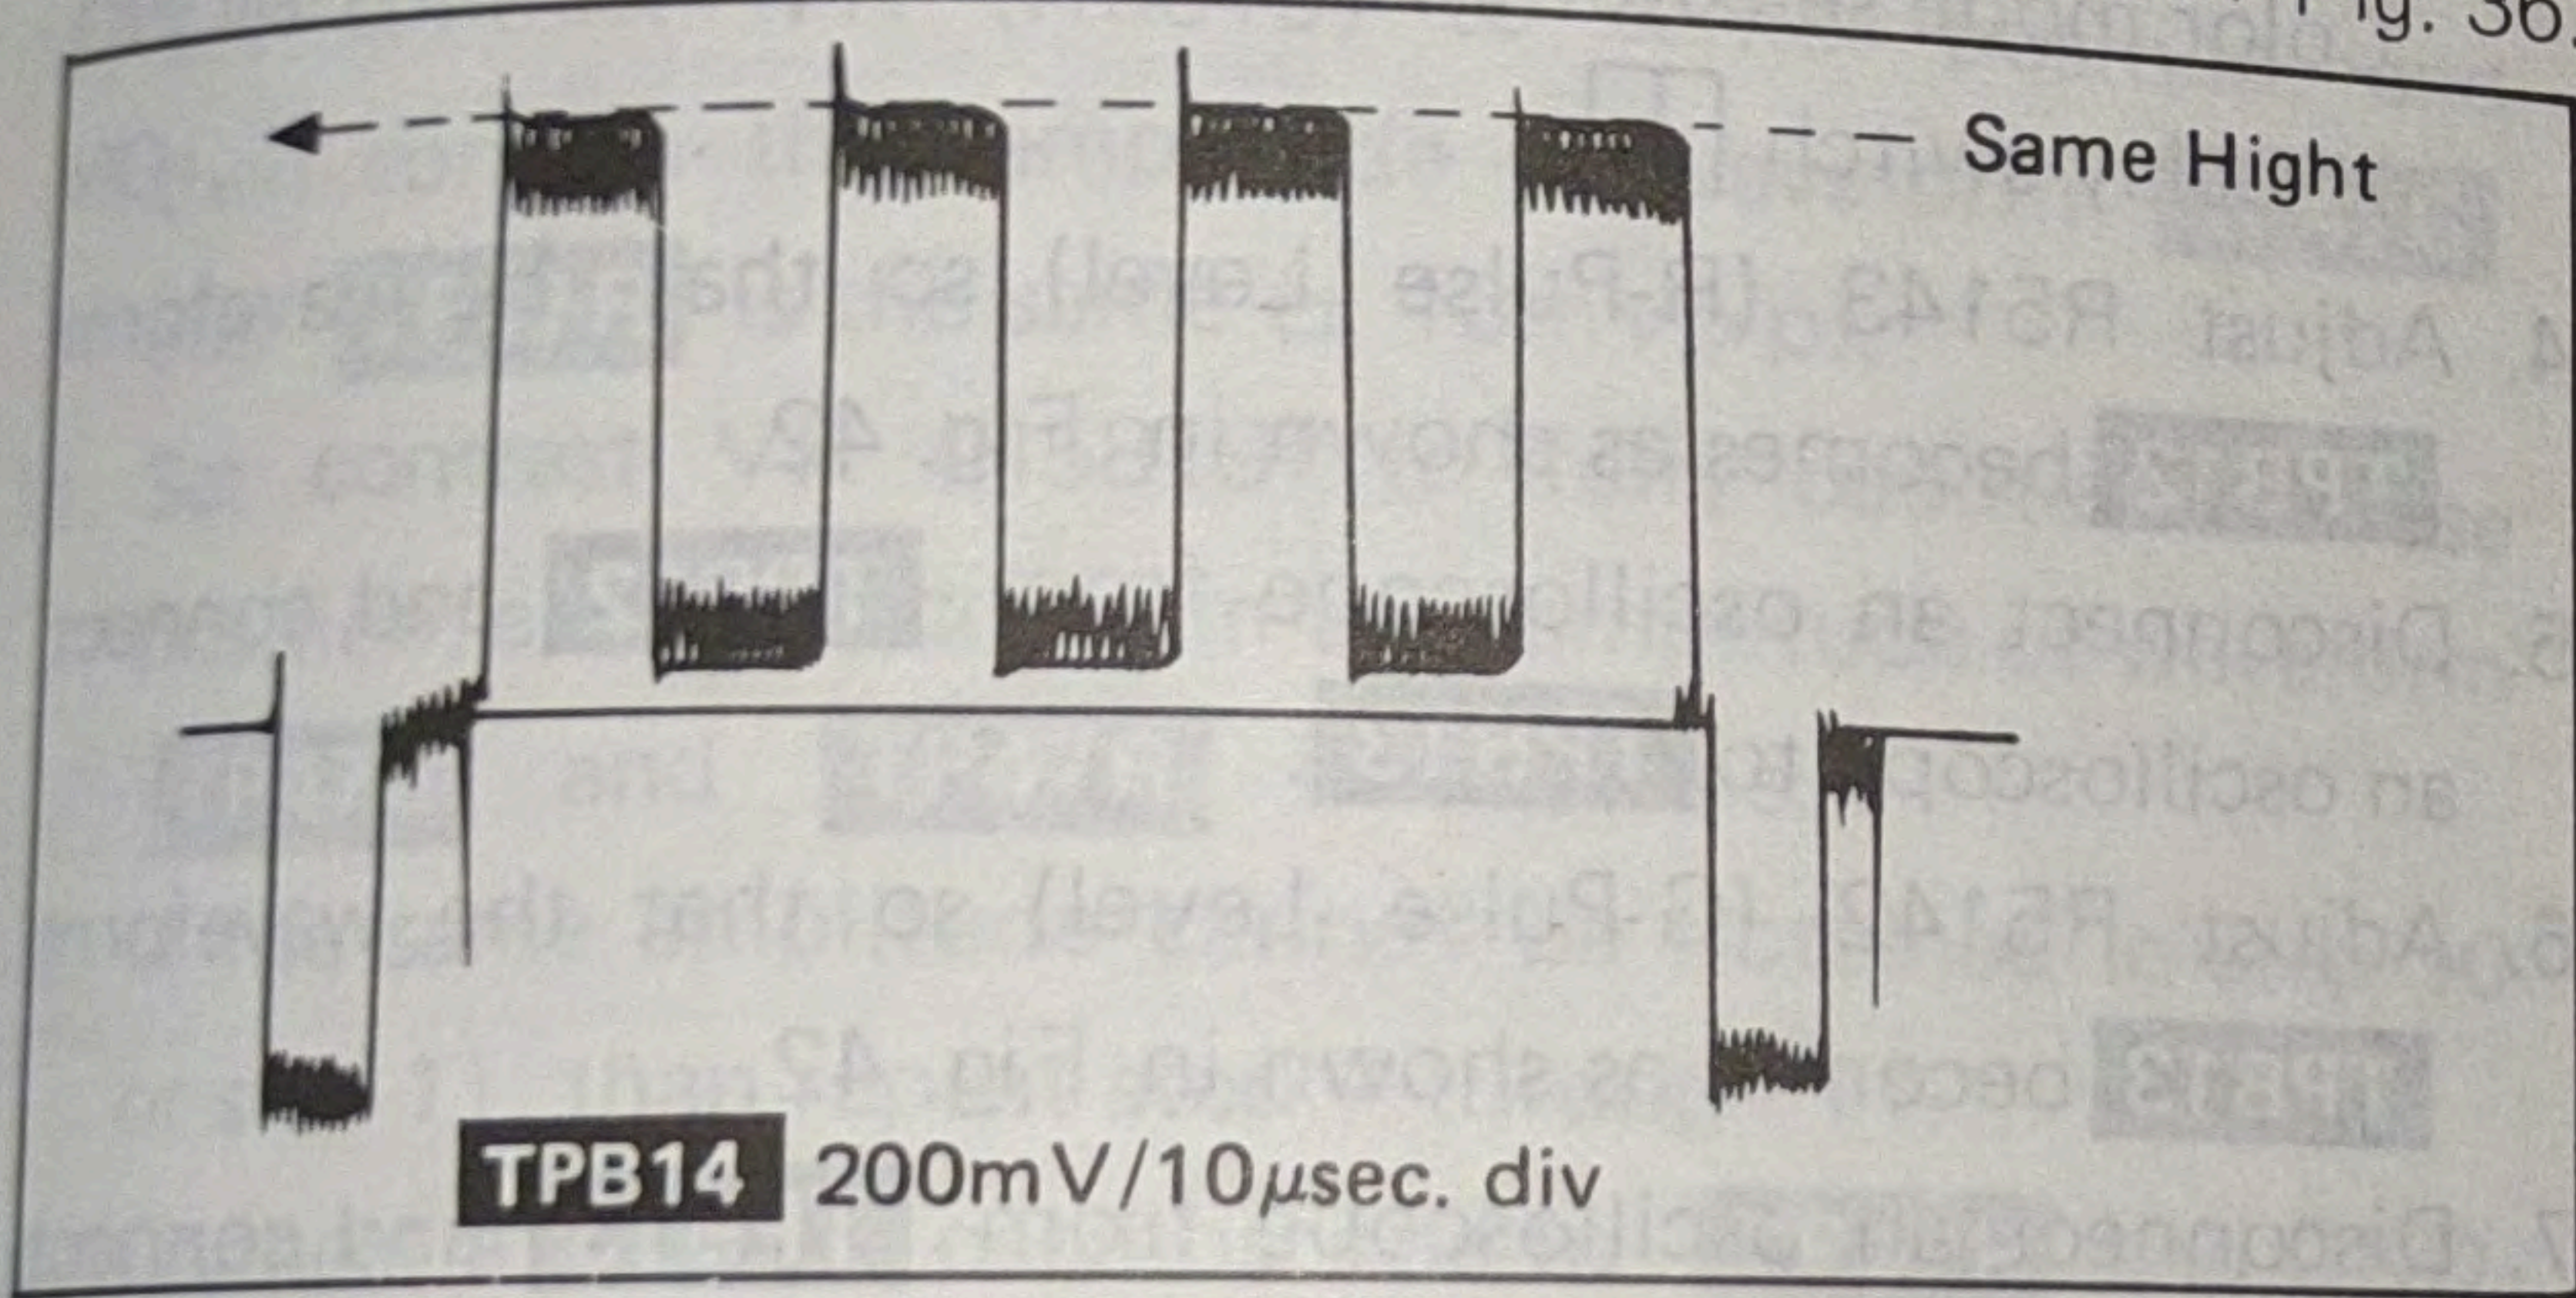

Fig. 36
- Adjust phase VR (R5809) and Chroma VR (R5804) so that the waveform **TPB14** becomes as shown in Fig. 36.